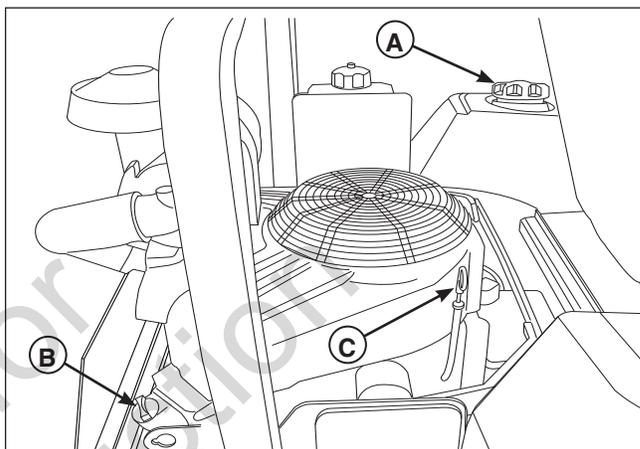

Figure 1. Pre-start Checks (Briggs & Stratton Vanguard model shown)
- Check that crankcase is filled to full mark on dipstick (C, Figure 1). See the engine Operator's Manual for instructions and oil recommendations.